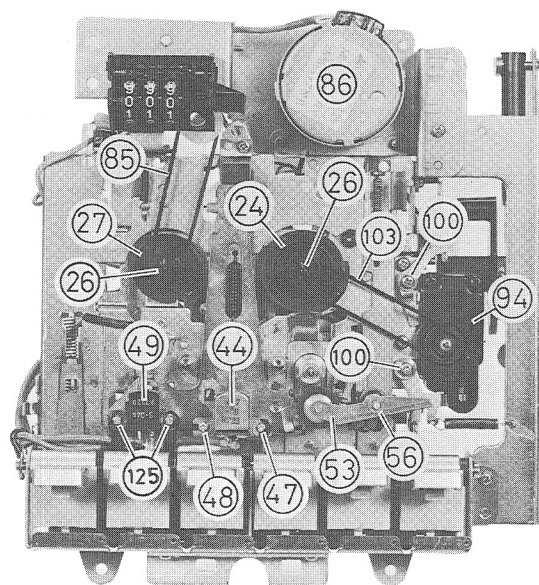

Fig. 21
**Note:** Reference numbers of Figs. 21 to 23 are the same as on Fig. 55.
#### A. Erase Head (49) (Refer to Fig. 21)
#### B. Play/Record Head (44) (Refer to Fig. 21)
#### C. Pinch Roller Arm Ass'y (53) (Refer to Fig. 21)
#### D. Take-up (24) & Supply (27) Disks (Refer to Fig. 21)
1. Detouch the belt (103) or (85)
2. Remove the reel stopper (26).
#### E. Shut-off Ass'y (94) (Refer to Figs. 21 & 22)
1. Detouch 2 belts (103) & (102).
2. Remove 2 screws (100).
#### F. Motor (86) (Refer to Figs. 21 & 23)